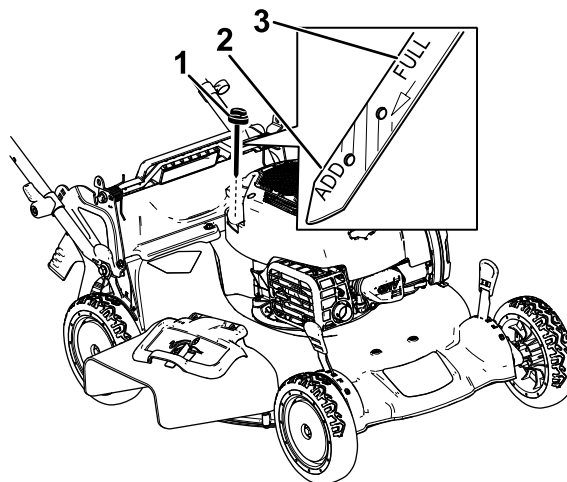

Figure 6
2. Remove the dipstick by rotating the cap counterclockwise and pulling it out (Figure 6).
7. Read the oil level on the dipstick (Figure 6).